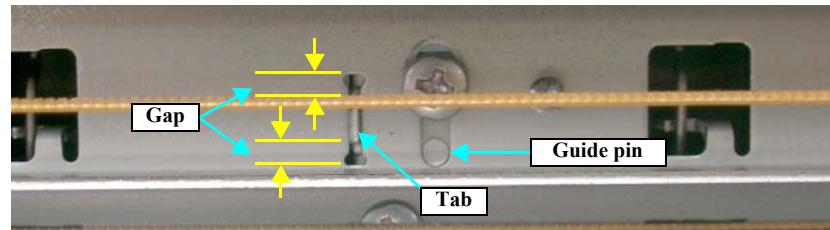

Figure 4-29. Checking the Position of Tab on the Guide Roller LD
4. Align the guide pin and tab on the 0 Digit Side Guide Roller LD with the positioning holes on the Main Frame, and tighten the Guide Roller LD (0 Digit Side) with the screws. (See Fig.4-29.)